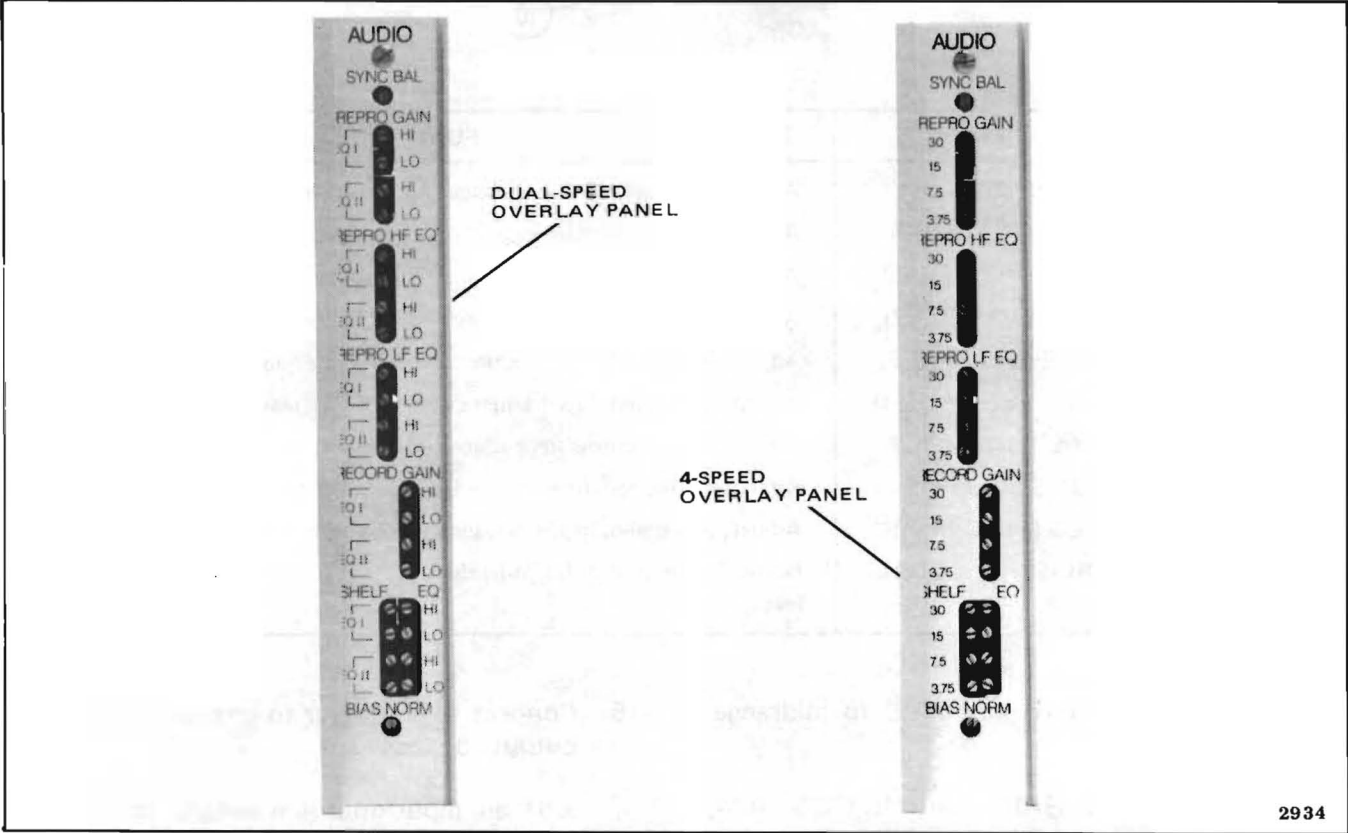

Figure 5-13. Overlay Panels, Main Audio PWA Nos. 1, 2, 3, and 4 for Use with 4-Speed PADNET
9. Place system in play mode and establish reference frequency as follows: (see Figure 5-13).